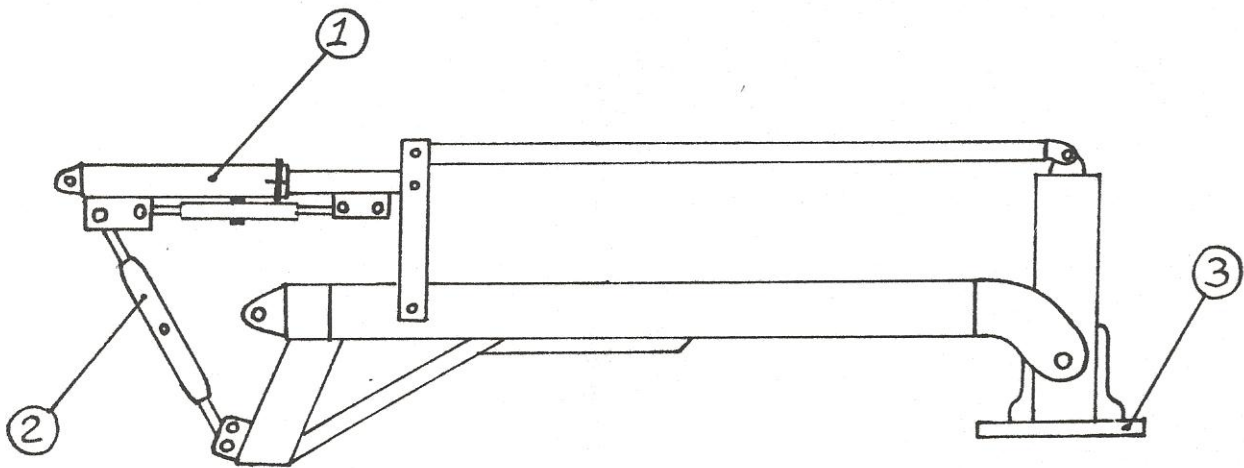

Figure 1. Kilworth Post Driver
Fit the Kilworth adjustable top link (see Figure 1,1) to the top hitch jaws on the tractor. Use the lowest holes possible on the tractor.
Fit the tractors own top link between the underside of the Kilworth top link and the jaws on the base of the Post Driver, using the pins provided (see Figure 1,2). Use the lowest hole initially.
Lift the Post Driver until the striking head (see Figure 1,3) is approximately 1.0m (3 feet) off the ground. Adjust the length of the Kilworth top link until the head is vertical. Now lift the Post Driver slowly and carefully as high as it will go.
- 1] On certain tractors the Kilworth Top Link (item 1 on Figure 1) may not extend sufficiently to bring the striker plate (item 3) horizontal. If this is the case the centre tube of the grey top link can be exchanged for a longer one. Contact your dealer or Kilworth for further advice.
- 3] Where the tractor is fitted with quick hitch type 3 point linkage (eg. Walterschied hitch) the tractor top link may not fit into the Post Driver jaws (item 2 Figure 1). Kilworth recommend fitting a standard CAT 2 top link at this point if any difficulty is experienced.